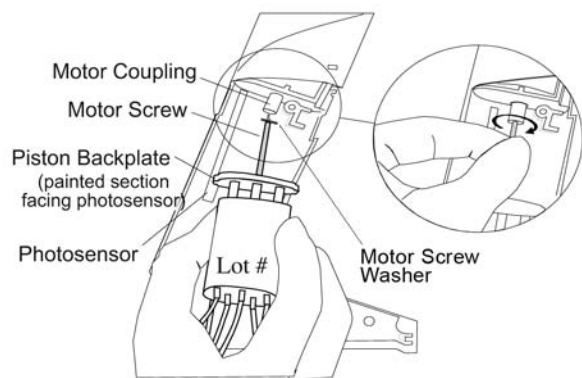

Figure F.2.3e: Installing Piston/Cylinder Assembly
3. Carefully insert the flat end of the motor screw into the hole of the motor coupling. This can be accomplished by holding the piston/cylinder assembly at a slight angle while inserting the motor screw into the hole of the motor coupling. Slowly spin the motor screw until the flat end of the motor screw is fully engaged into the motor coupling hole (see Figure F.2.3e). The cylinder can now be seated between the plastic ribs in the main housing.